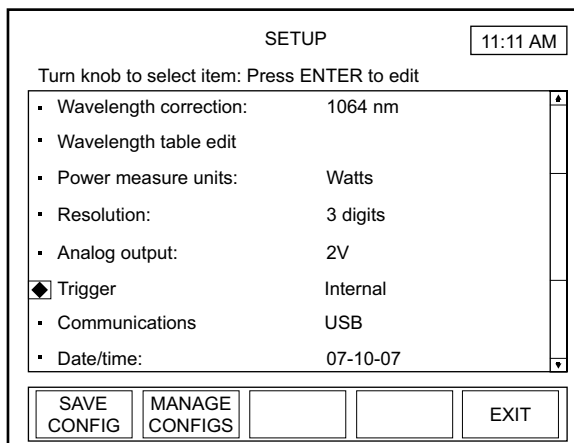

Figure 4-51. SETUP: Trigger
1. On the main SETUP screen, turn the Selection knob to move the diamond indicator to Trigger (Figure 4-51).